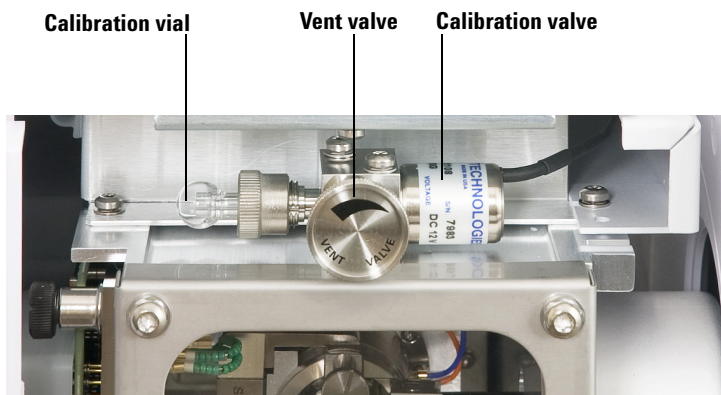

Figure 7 Removing the EI calibration vial
- 4 Turn the calibration vial collar counterclockwise to loosen it (Figure 7). Do not remove the collar.
- 1 Remove the old valve assembly. See “To remove/reinstall the calibration and vent valve assembly” on page 91 and Figure 7.